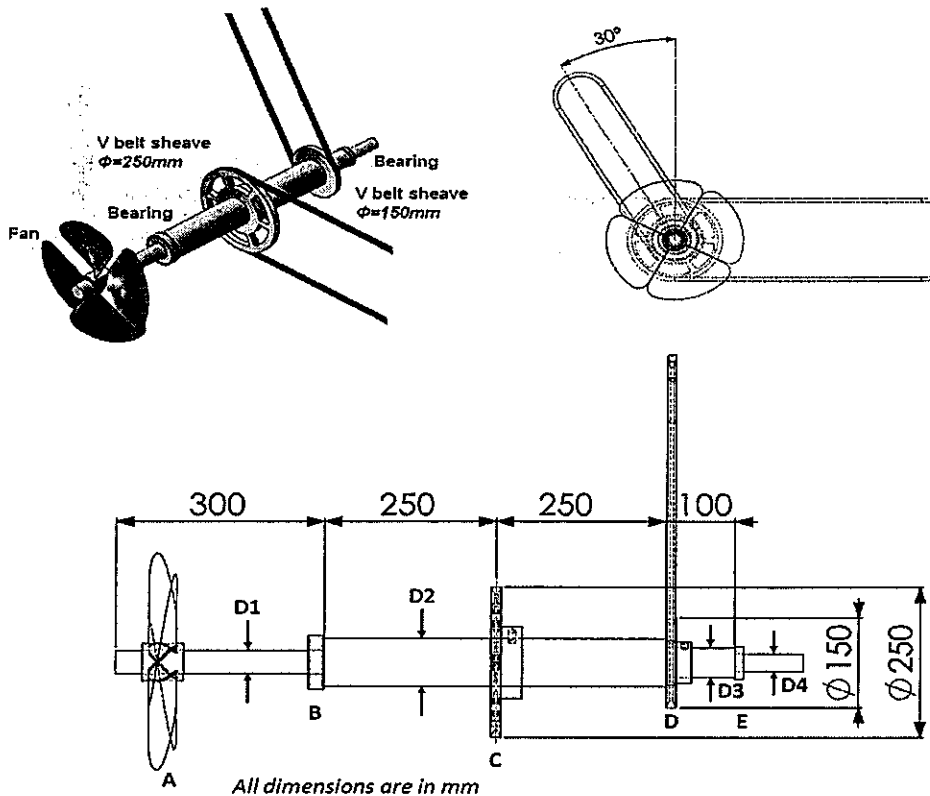

Figure 3
- 2(a) The shaft system shown in the Figure 3 is part of a grain-drying machine. At point A is a propeller-type fan with a mass of 15kg that requires 9 kW when rotating at 475 RPM. The shaft carries a 250mm diameter V-belt sheave at point C that receives 11.5 kW from a mating sheave (not shown in the figure). Moreover, the shaft is also carrying a 150 mm diameter V-belt pulley at point D that delivers power to a screw conveyor handling the grain (not shown here).